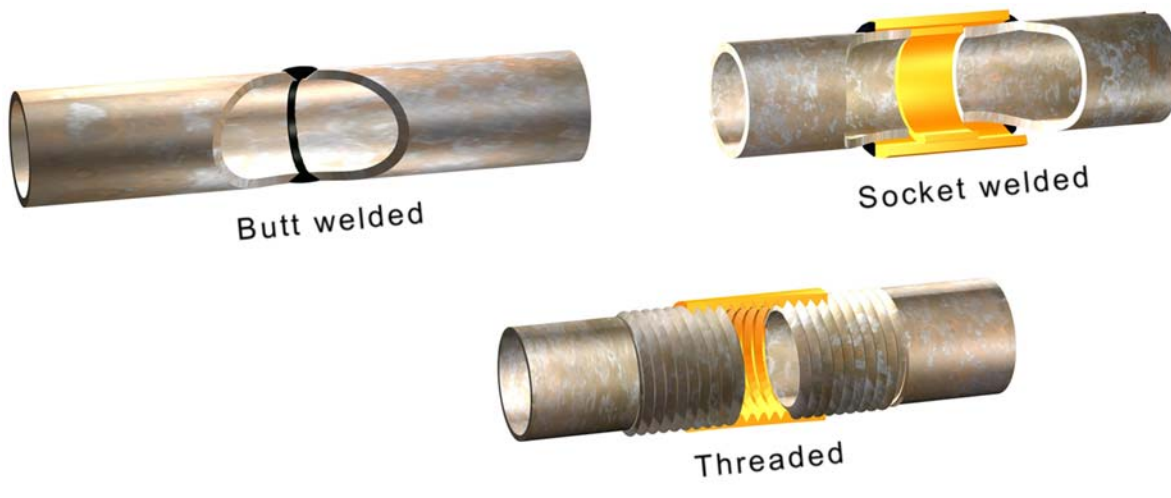

FIGURE 2.7 Pipe joining methods.
widely used in piping systems made of carbon steel, as shown in Figure 2.7. They are butt-welded (BW), screwed (Scrd), and socket-weld (SW). Later in the chapter, cast iron and plastic pipe uses will be discussed.